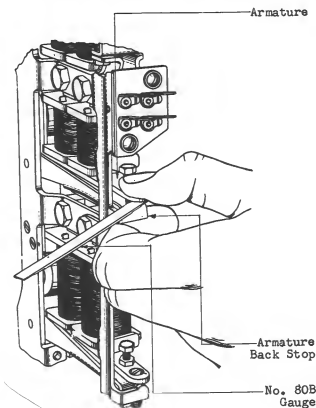

Fig. 23 - Holding Gauge in Position To Check Pawl Engagement
(2) To check the pawl engagement, place the No. 80B gauge between the armature and the backstop. Clamp the gauge in this position with the thumb and index finger, placing the index finger on the backstop and the thumb on the armature as shown in Fig. 23.